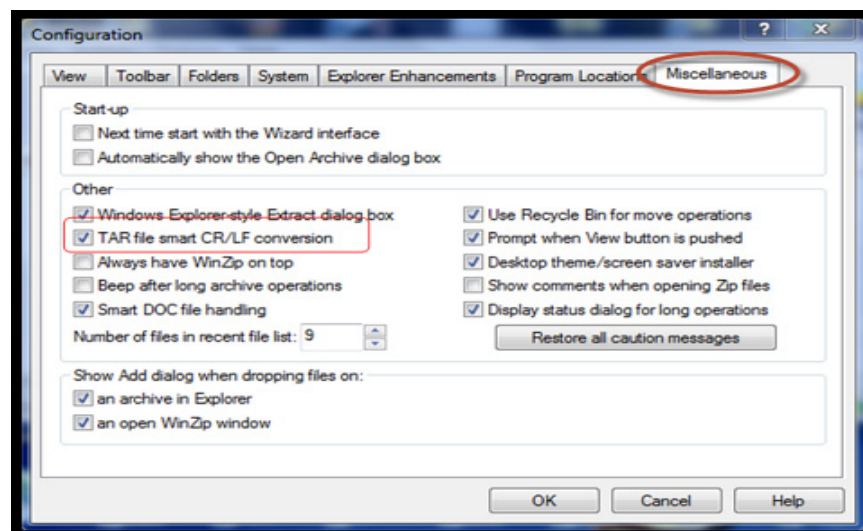

Figure 116 Selecting Miscellaneous tab
3. Select **Configuration**, and then the **Miscellaneous** tab, as shown in Figure 116 on page 91.